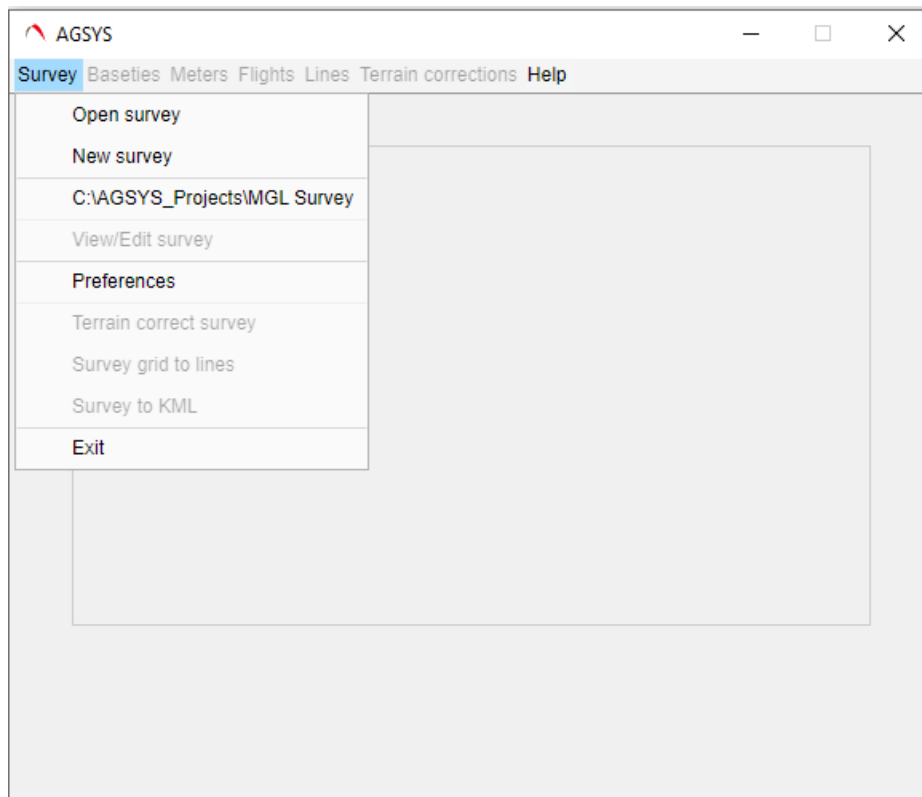

Figure 4-5 AGSYS Dialog Example Survey Menu Options
- Select an existing survey from the list displayed in the Survey menu (Figure 4-5). The Survey menu lists the last five surveys accessed.